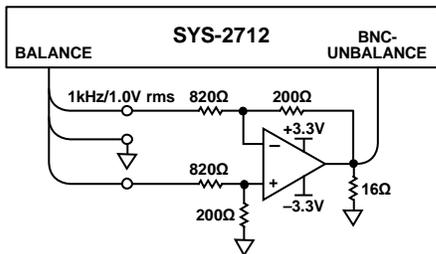
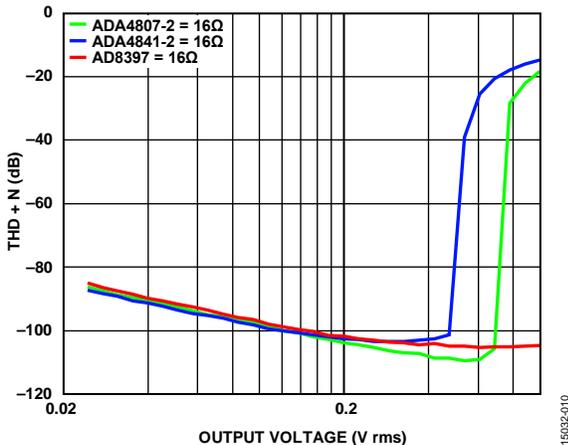
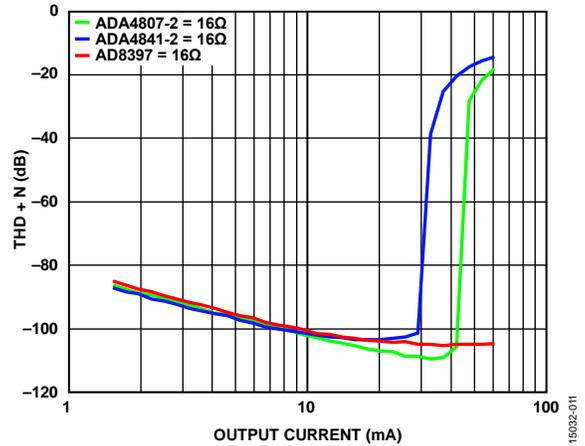

Figure 9. THD + N Test with 16Ω Load
Figure 10. THD+N vs. V_{OUT} of the ADA4841-2, ADA4807-2, and AD8397
Figure 11. THD+N vs. I_{OUT} of the ADA4841-2, ADA4807-2, and AD8397
- <-100 dB THD + N at 32Ω load is a key specification. See Figure 9 and Figure 10 for the test circuit and test result, respectively.
Figure 9 shows the circuit used to find THD + N at a heavy load. The following details the THD + N vs. V_{OUT}/I_{OUT} measurement:
Figure 10 and Figure 11 depicts THD + N vs. V_{OUT}/I_{OUT} of the recommended operational amplifiers.
Table 2 details the maximum current and maximum output power with parameters set at <-100 dB THD + N at 16Ω load. Figure 11 shows the following results: